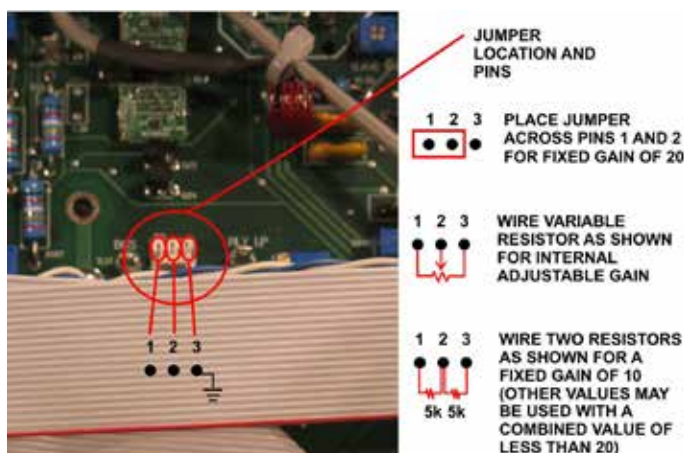

Figure B.2.20 – Gain Control Pin Settings
3. To set a fixed gain of 20, place a shunt (supplied) across pins 1 and 2 as shown in **Figure B.2.20**.
4. If preferred, a fixed gain can be set at another level; place two resistors (not supplied) across pins 1 and 2 (resistor 1) and pins 2 and 3 (resistor 2) as shown in **Figure B.2.20**. Note: